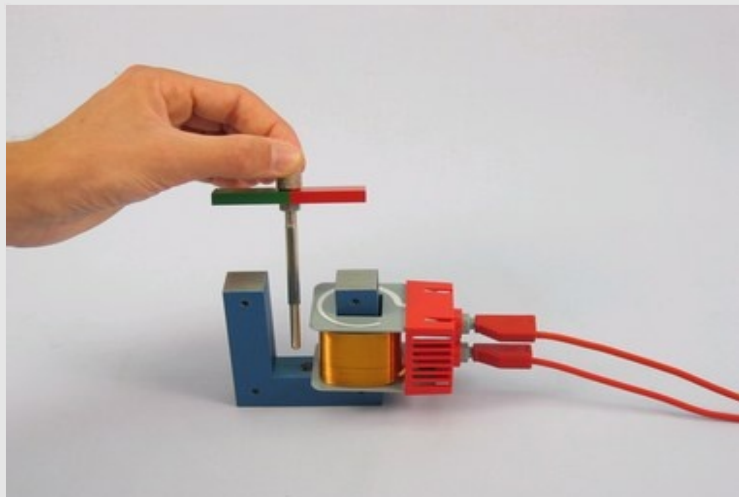

Fig. 5
- Insert the thin end of the rotating stem with magnet into the U-core (see Figs. 5 and 6). Choose a distance of approx. 5 mm. Let the magnet rotate very fast, observe the lamp and note your observations under "Result - Observations 6" in the protocol.